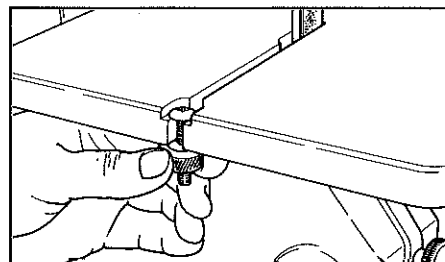
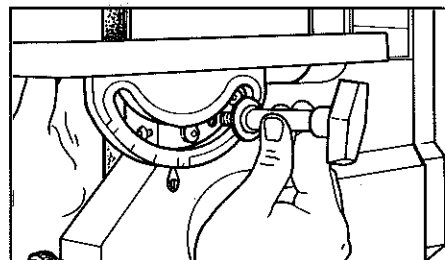

Figure 4. Remove the table leveling clamp.
Figure 5. Attach the table to the frame.
6. **Mount the table.** Move the power plant all the way to the right. Remove the table leveling clamp [bolt (42) and nut (43)] from the table (41). (See Figure 4.) Slide the table from right to left (facing strip sander) so the table slides over the belt and platen. Place the small flat washer (49) onto the shaft of the table lock knob (50). Place the large flat washer (48) onto the shaft and attach the table to the frame (12) with the table lock knob. (See Figure 5.) The trunnion (47) must be riding on the trunnion guide (29). Attach the table leveling clamp.